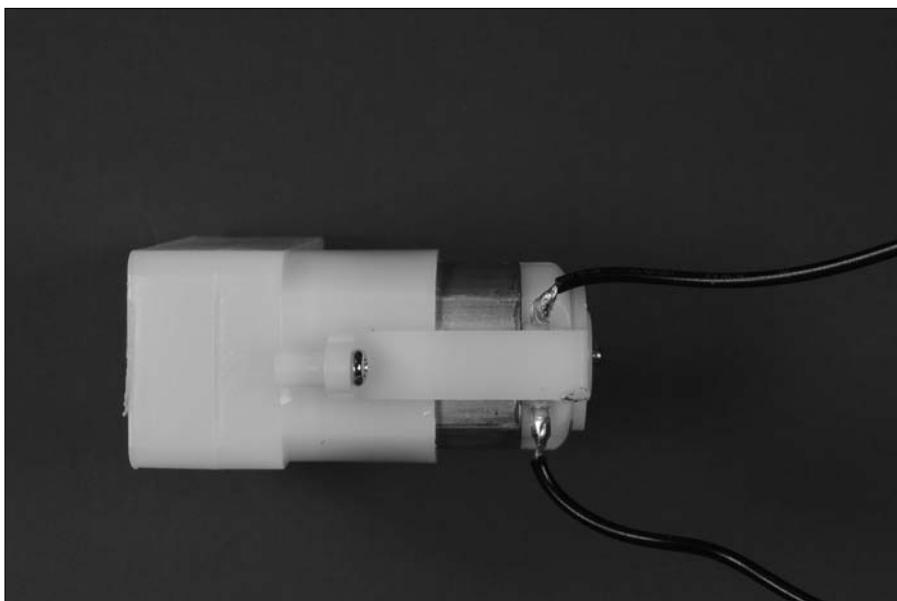

Figure 13-28:
1. **Solder 12" stranded wires to the motor lugs, as shown in Figure 13-28.**